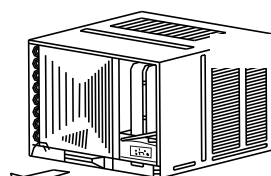

Fig. 6
- 2 Grasp the handle on the chassis and carefully slide the air conditioner out of the cabinet (See Fig.6).